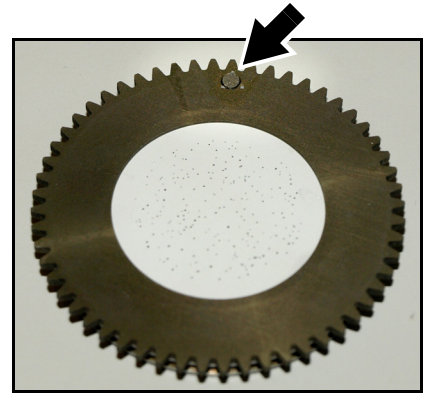

Figure 15: Goboholder magnet
- See Figure 15. Rotate the goboholder until its magnet (arrowed) lines up with a reference point that you choose on the module chassis. Remove and insert any gobos you replace one by one, with the goboholder magnets lined up with your reference point, and avoid rotating the gobo wheel while a gobo is removed. This will keep gobos in the orientation they were designed for and avoid the need to reprogram the controller because a gobo orientation has changed during service.